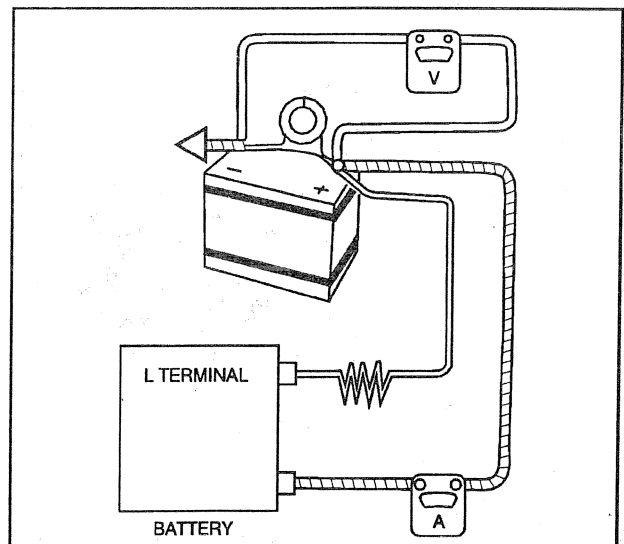

Figure 4—Connections for Generator Output Test
1. Make connections as shown in figure 4, except leave the carbon pile turned off. The ground polarity of the generator and battery must be the same. The battery must be fully charged. Use a 30 to 500 ohm resistor between the battery and the "L" terminal.